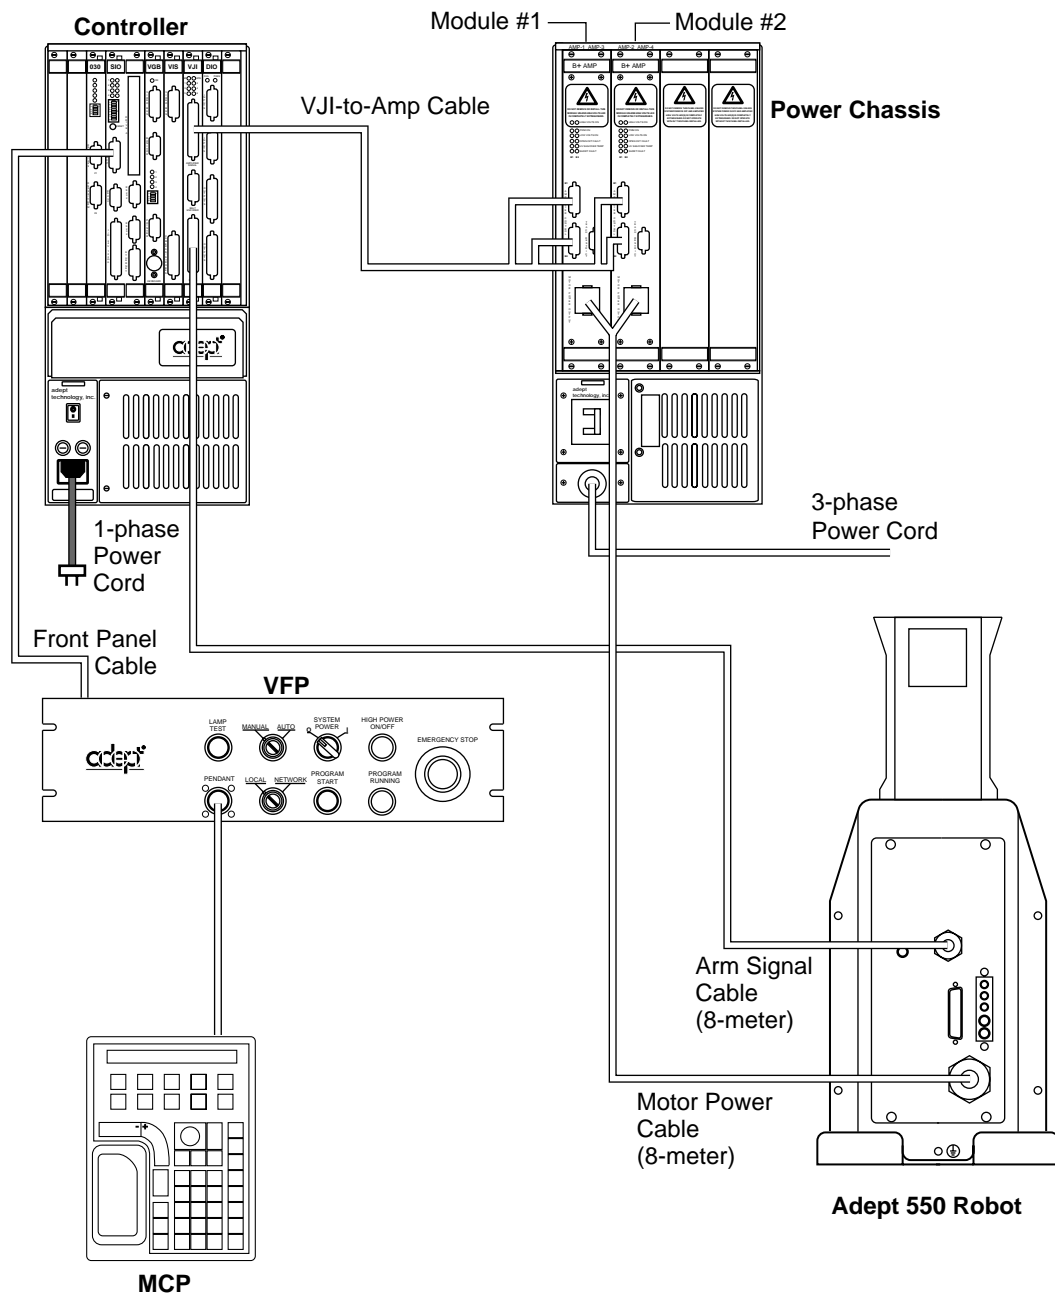

Figure 2-10. Adept 550 Robot System Cable Installation
The 8-meter cable between the robot and power chassis is called the Motor Power cable. It is permanently attached at the robot, and has two square connectors on the power chassis end. This cable carries high-voltage DC power to the motors. This independent DC circuit can only be isolated using the circuit breaker on the front of the Adept PA-4 power chassis. See Figure 2-10.
The 8-meter cable between the robot and the VJI module in the Adept MV controller is called the Arm Signal cable. It is permanently attached at the robot, and the controller end has a 50-pin D-sub connector. See Figure 2-10
1. Connect the cable end with the single connector to the connector marked “Amplifier Signal” (upper) on the VJI module. Tighten the screws. See Figure 2-10.